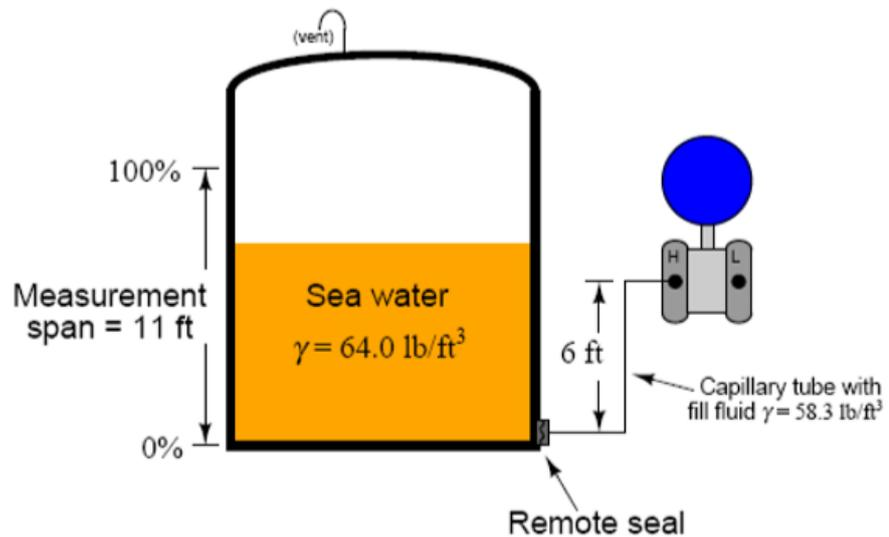

Figure 2(c)
- (c) Use the information given in **Figure 2 (c)** to calculate the value of pressure at each of the following percentage as 0%, 50%, 75% and 100%. Then, find the span value for the elevation tank as shown in